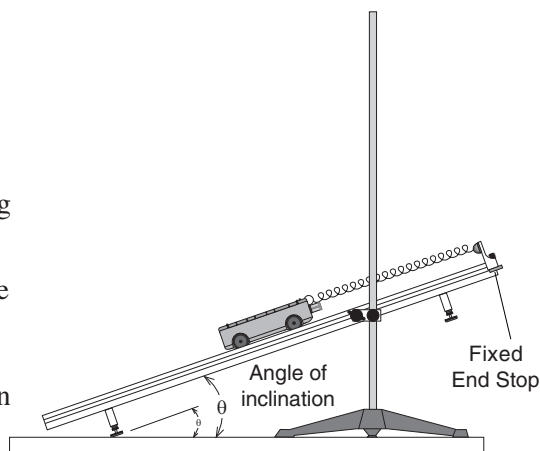

Figure 5.1 Equipment Setup
2. Set the car on the track and attach a spring to one end of the car by inserting the end of the spring in the hole provided in the car. Then attach the other end of the spring to the end of the track (See Figure 5.1).